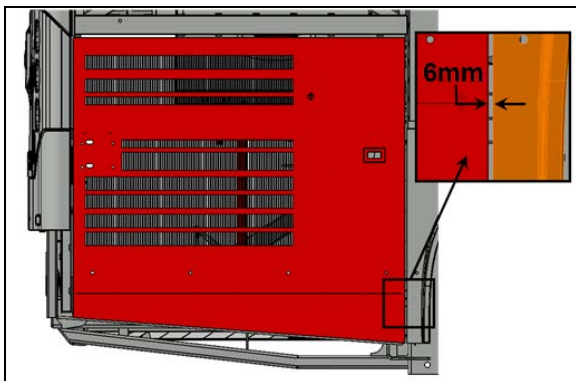

FIGURE 55
7. Check the gap between the door and the adjacent panel at the level of the lower attachment point of the arm on the door. The gap should be  $\frac{1}{4}$ " (6 mm) (FIGURE 55).